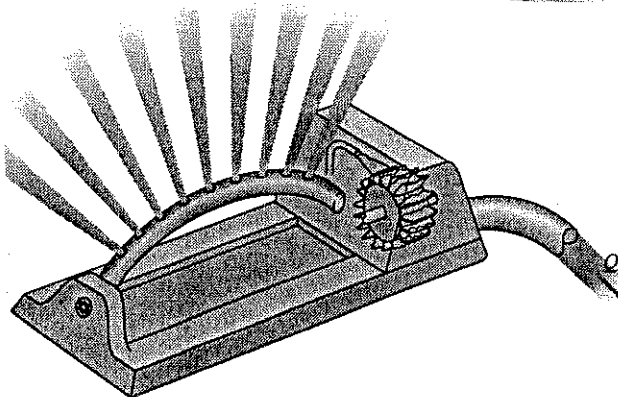

FIGURE P12.62
12.62 A small Pelton wheel is used to power an oscillating lawn sprinkler as shown in Video V12.3 and Fig. P12.62. The arithmetic mean radius of the turbine is 1 in., and the exit angle of the blade is 135° relative to the blade motion. Water is supplied through a single 0.20-in.-diameter nozzle at a speed of 50 ft/s. Determine the flowrate, the maximum torque developed, and the maximum power developed by this turbine.